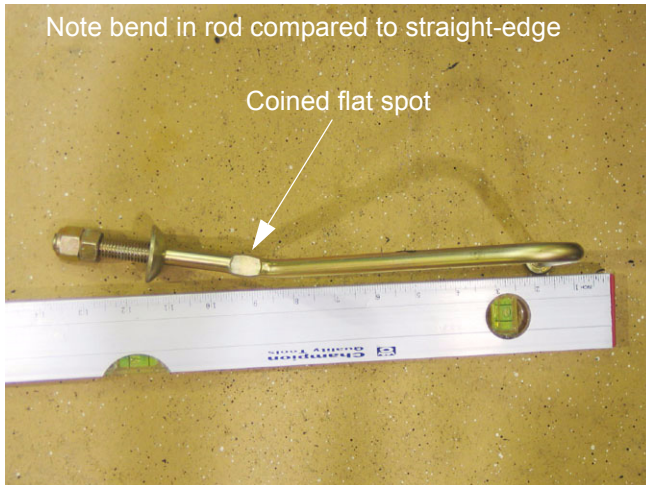

Figure 3.2
- 3.2. The hooked side of the front deck support rod belongs on the left. This is important because there is a slight bend in the rod. The rod needs to angle down to clear the steering tie-rod before extending back to meet the deck. See Figure 3.2.